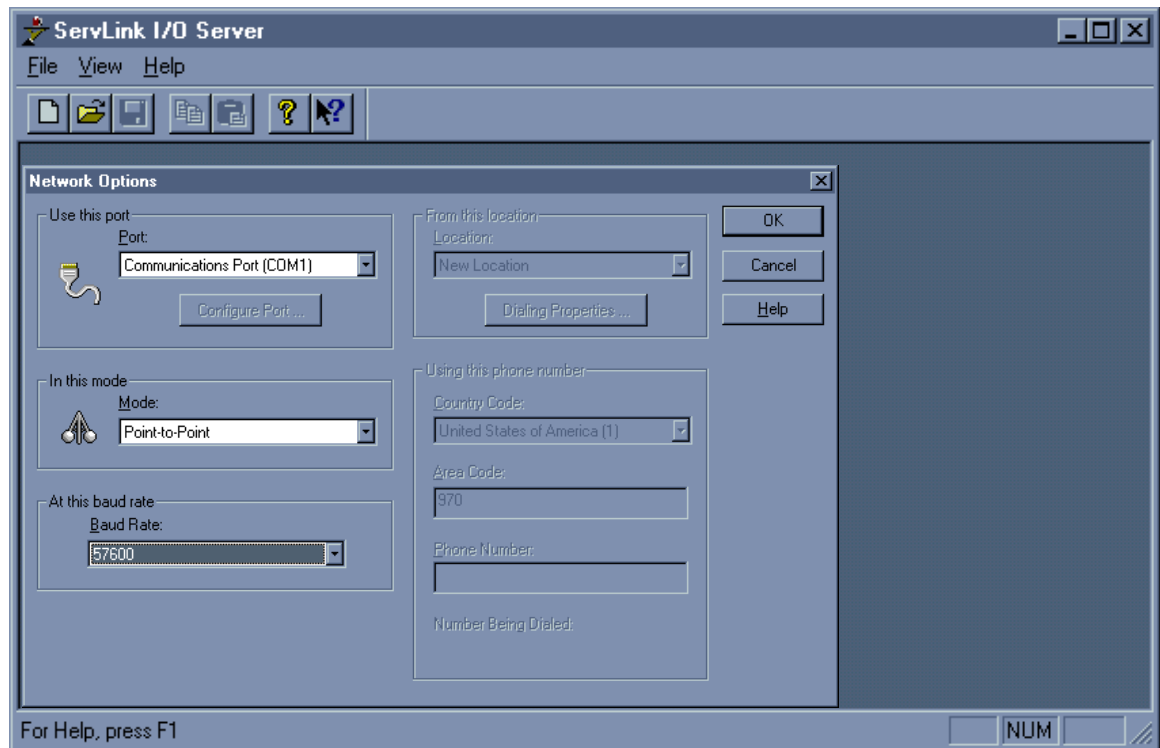

Figure 4-1. ServLink Screen
2. Start ServLink on your PC, and select the port your PC is using and the baud rate. Mode: is “Point-to-Point”. See Figure 4-1.